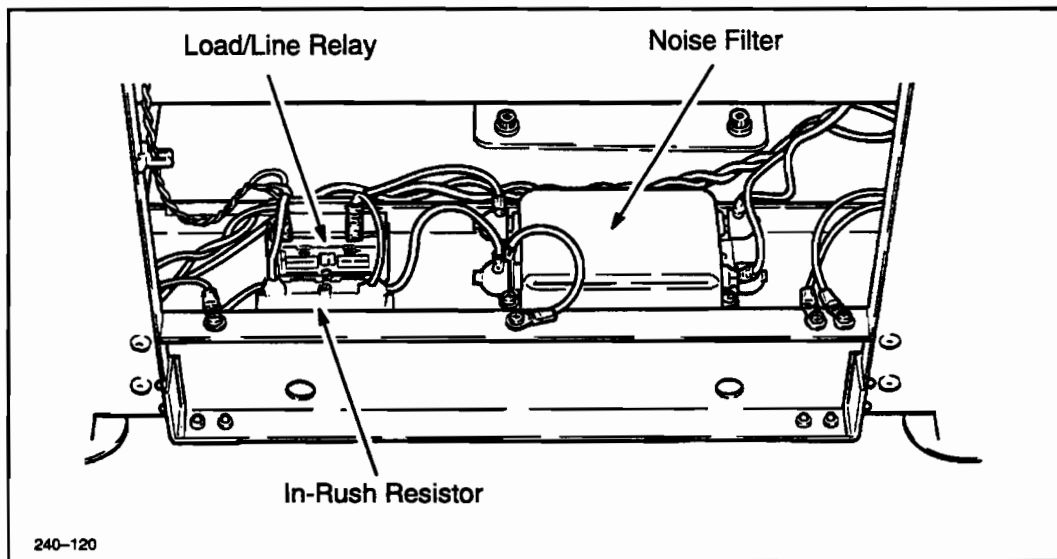

Figure 6-18. Line/Load Relay (RL1) Removal (Models 250/255)
1. Switch the plotter OFF (O) and disconnect the ac power cord and interface cable.
3. Note the orientation of the line and load wire connections to the relay. Disconnect the wires from the relay. See Figure 6-18.